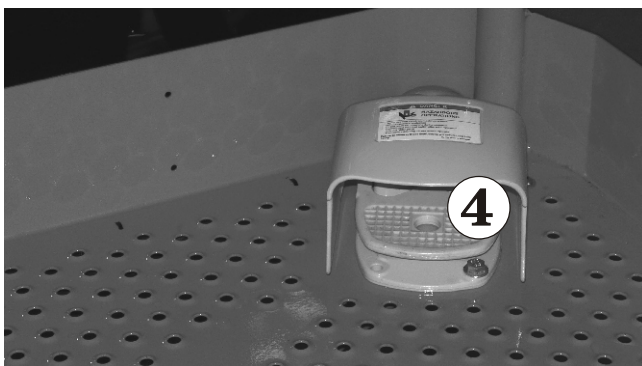

Figure 11.3 - Enable Switch (Foot)
4. Step on the platform foot switch ④ (see Figure 11.3).
5. Whilst still operating the enable switch, press and hold the **Emergency Lower** switch ⑥ down and the upper boom will begin lowering.
Enable ⑤ or ④ (foot switch - Figure 11.3) Emergency Lower ⑥